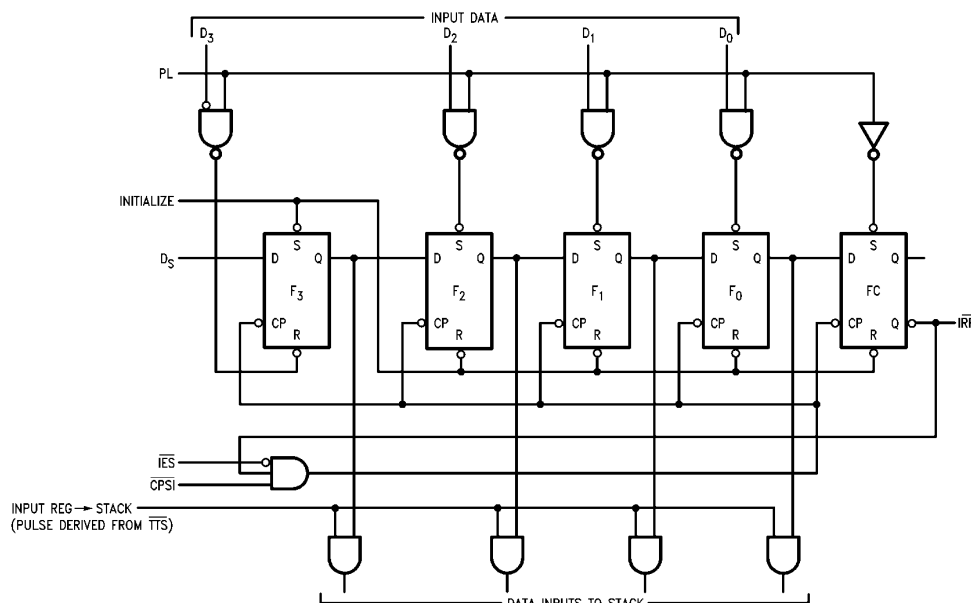

FIGURE 1. Conceptual Input Section
This 5-bit register (see Figure 1) is initialized by setting flip-flop F₃ and resetting the other flip-flops. The \bar{Q} -output of the last flip-flop (FC) is brought out as the Input Register Full (IRF) signal. After initialization, this output is HIGH.